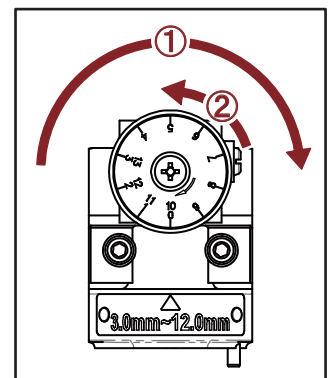

Fig. 5-4
1) Preset the scale of the positioning shelf. (Fig. 5-4)
- ① Turn it by clockwise to the end.
- ② Turn it by counterclockwise at "0".